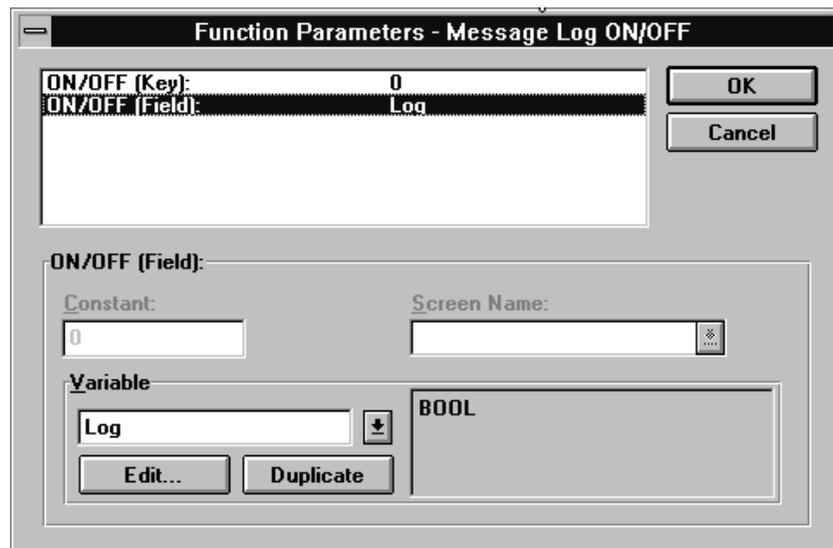

Figure 10-3 *Function Parameters* Dialog Box
6. Select the second parameter, *ON/OFF (Field)*. In the *Variable* field, enter the name *Log*. The *Log* variable is a type *BOOL* variable and is set to *No PLC*. Figure 10-3 shows the settings which have just been described.